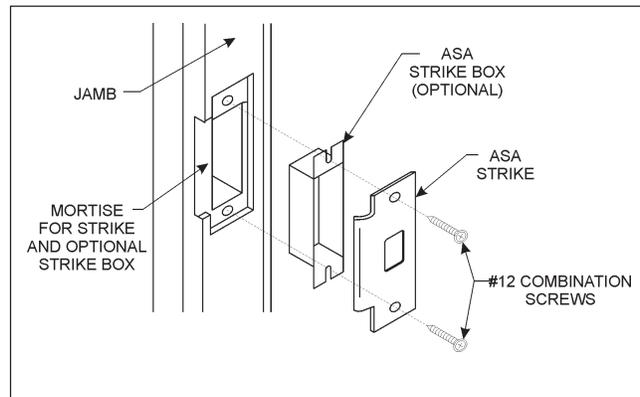
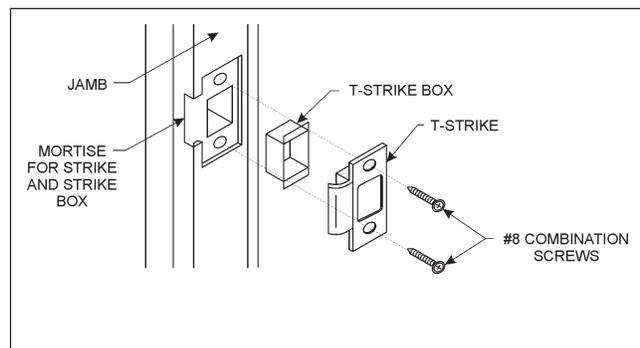

Figure 25
Figure 26
2. Mortise the door jamb in alignment with the center of the latchbolt to accommodate the strike box and the 4 7/8" (124mm) ASA strike (refer to Figure 25) or the 2 3/4" (70mm) T-strike (refer to Figure 26).